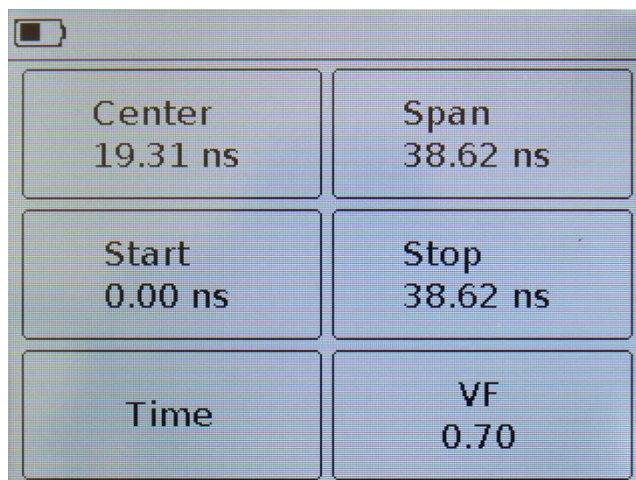
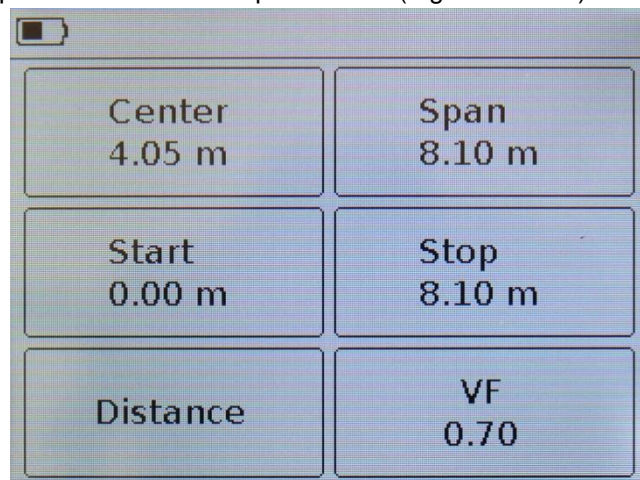

Figure 10.11.1 – Menu timeline setting
Figure 10.11.2 – Menu for setting the distance scale
10.7.4. To configure the measurement parameters, click on the **Scale** field, and the device will switch to the time settings menu (Figure 10.11.1) or the distance (Figure 10.11.2).
10.7.5. Configure the displayed plot with the time parameters (Figure 10.11.1):
10.7.6. Adjust the displayed plot with the distance parameters (Figure 10.11.2):